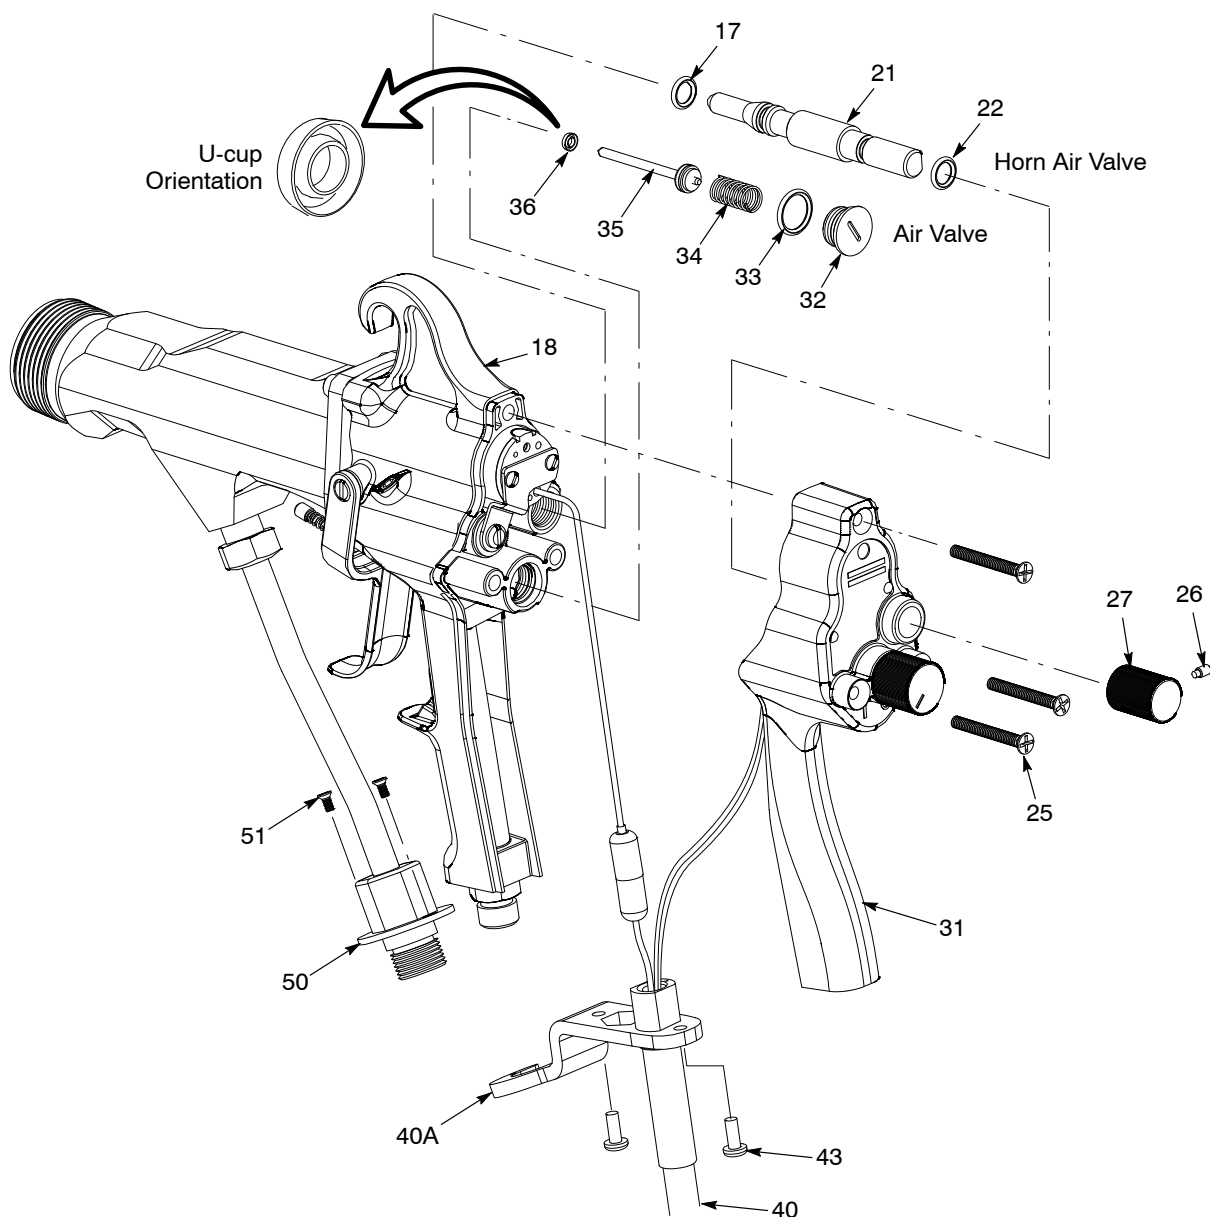

Figure 7-9 Air Valve Repair
2. See Figure 7-9. Unscrew the air valve plug (32). Inspect the O-ring (33) and replace it if it is damaged.
3. Remove the air valve spring (34) and air valve stem (35) from the handle. Do not lose the spring. If the air valve stem does not come out with the spring, push it out from the trigger side of the handle. Do not use any tools to force the stem; you may damage the U-cup seal (36) or stem bore.
6. If the air valve spring (34) came off the air valve stem (35), snap it back on. The air valve spring must be attached to the air valve stem or the gun will not work properly.
7. Lubricate the U-cup seal (36) with MagnaLube-G or an equivalent lubricant. Insert the air valve stem through the U-cup seal and into the stem bore.
8. Lubricate the air valve plug O-ring (33) with MagnaLube-G or an equivalent lubricant and screw the air valve plug (32) into the handle until it is snug.
2. See Figure 7-9. Install the horn air adjust knob (27) on the horn air adjust valve (21) and tighten the set screw (26). Unscrew the valve from the handle.